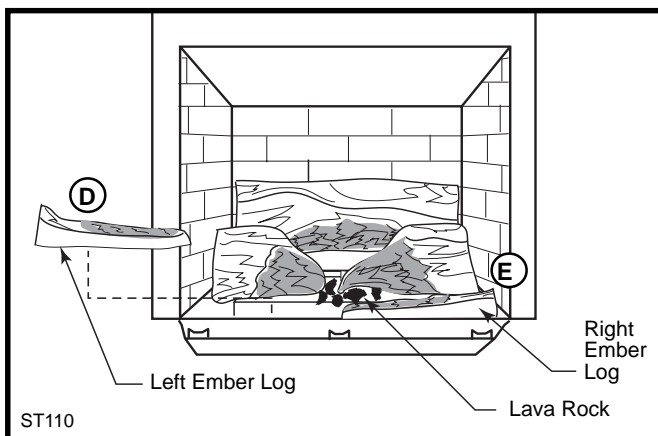

Fig. 14 Install left and right ember strips and lava rocks.
- Press the burner assembly fully to the rear, by hand. Place the two front ember log sections, D and E, in the slot at the front of the firebox. (Fig. 14)
- Loosely sprinkle the lava rocks directly on top of the burner between the ember logs and the middle logs. Do not place any ember material behind the middle logs. (Fig. 14)